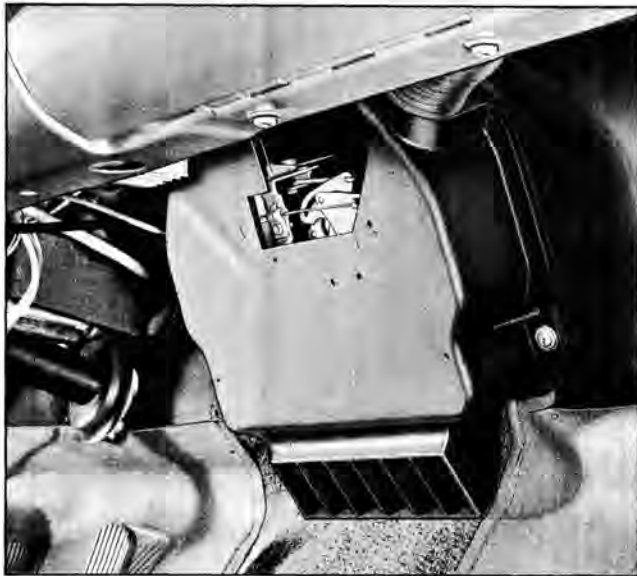

Fig. 2-14 Inspection Hole in Air Outlet Duct
1. Remove inspection hole cover on the heater rear air distributor (air outlet duct), Fig. 2-14.